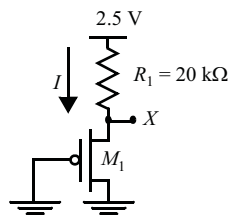

Figure 0.5 MOS circuit.
9. [M, None, 3.3.2] Consider the circuit configuration of Figure 0.5.